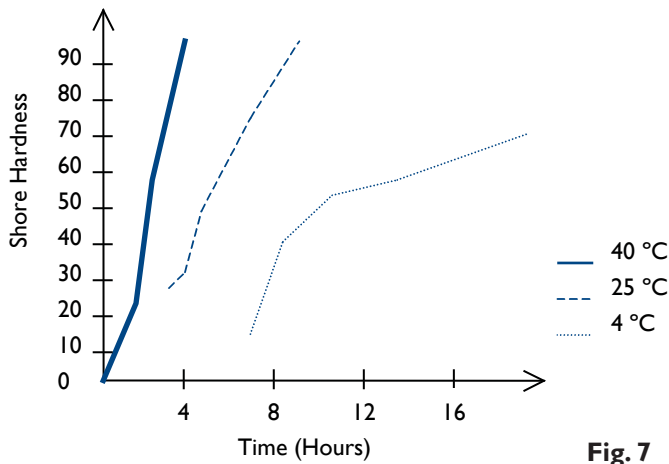

Fig. 7
See notes overleaf and Fig. 7 for compound preparation.
Allow the compound to cure. (See Fig. 7 for Curing Times). Untighten firstly the backnut ① from ② and secondly the middle nut ② from the entry ⑤. The rubber pot ④ may be removed for inspection to ensure that the packing is satisfactory. Add further compound if necessary.